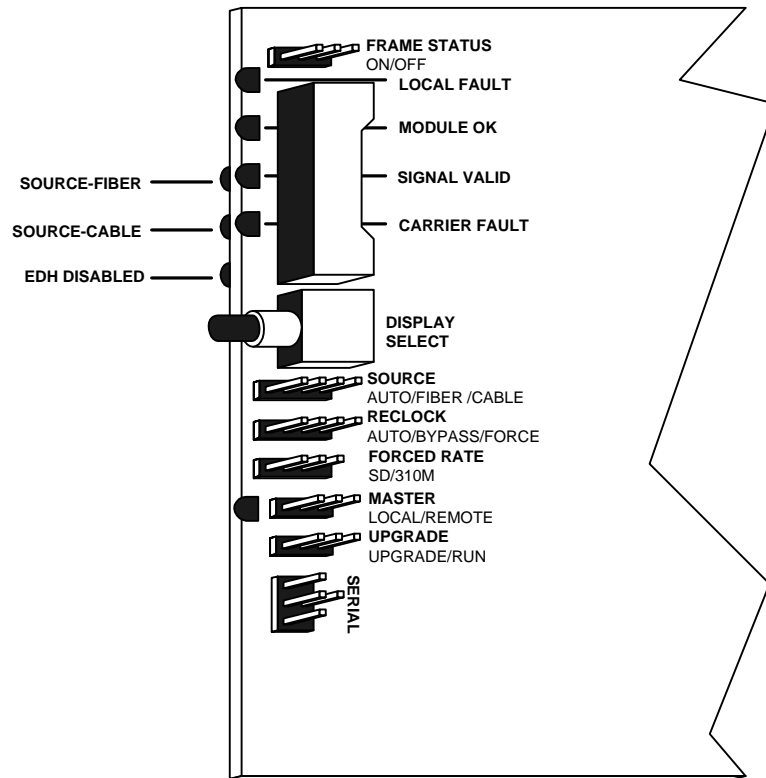

Figure 4-1: Location of Status Indicators and Jumpers
The 7707EO has 8 LED Status indicators and a 4 digit alphanumeric display on the front card edge to show operational status of the card at a glance. The card edge pushbutton is used to select various displays on the alphanumeric display. Figure 4-1 shows the locations of the indicators and pushbutton.
Several jumpers, located at the front of the module, are used to preset various operating modes. Figure 4-1 shows the locations of the jumpers.
NOTE 1: The Rev (A) boards have incorrect labeling for the *RUN* / *UPGRADE* modes. The jumper labels shown in Figure 4-1 are correct. On Rev (A) boards, for normal *RUN* operation set the jumper to the *UPGRADE* position (as shown on the board label - away from the front of the module). For *UPGRADE* operation the jumper must be set to the *RUN* position (as shown on the board label - closest to the front of the board).